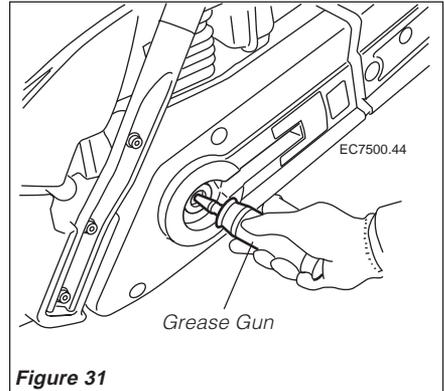

**Figure 30**
2. Take the filter out from the fuel opening by using a hooked wire. If the filter is hard and clogged with debris, replace it with a new one. See Figure 30.